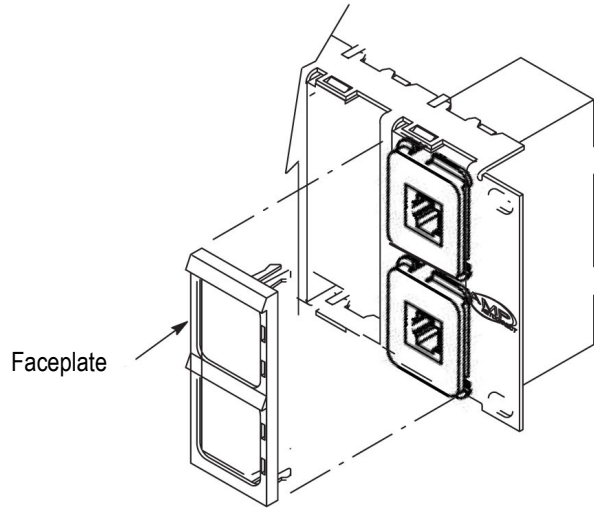

Figure 8
6. Attach the plastic faceplate to the panel, see Figure 8.